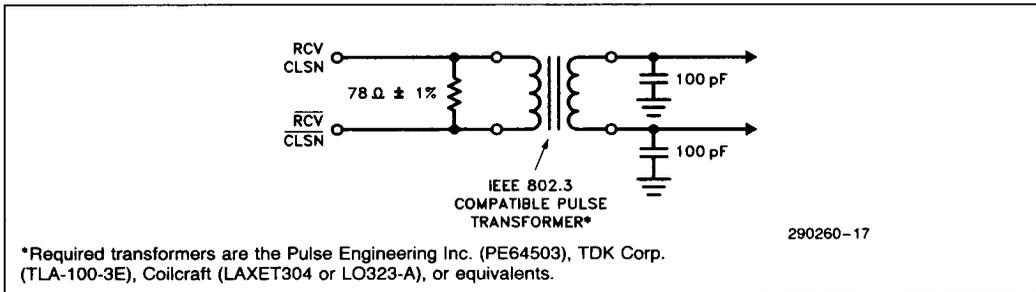

Figure 4. Typical Load Output on the Outputs of RCV/RCV and CLSN/CLSN
- **AUI Driver Characteristics.** This driver differentially drives a current onto the load connected between the RCV and  $\overline{RCV}$  pins. The current through the load results in an output voltage between  $\pm 0.6$  V and  $\pm 1.2$  V measured differentially between the two pins. An external resistor (78  $\Omega$ ) and capacitor (100 pF) must be connected for proper termination, as shown in Figure 4. This output is in accordance with the IEEE Spec 802.3 Sec.7.4.1 for MAUs. When the driver detects that it has finished sending an IDL pulse to the AUI it starts a timer of not more than 5 BT. Activity on the RD pair is ignored when this timer is functioning.
This driver differentially drives a current onto the load connected between the CLSN and  $\overline{\text{CLSN}}$  pins. The current through the load results in an output voltage between  $\pm 0.6\text{ V}$  and  $\pm 1.2\text{ V}$  measured differentially between the two pins. An external resistor ( $78\ \Omega$ ) and capacitor ( $100\text{ pF}$ ) must be connected for proper termination, as shown in Figure 4. The output is in accordance with IEEE 802.3-1988 Sec. 7.4.1 for the AUI.